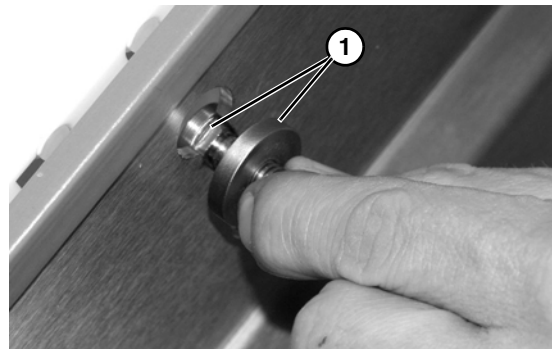

Figure 18
1. Insert carriage bolts with spacers (**Figure 18, item 1**) into slotted holes in conveyor side.